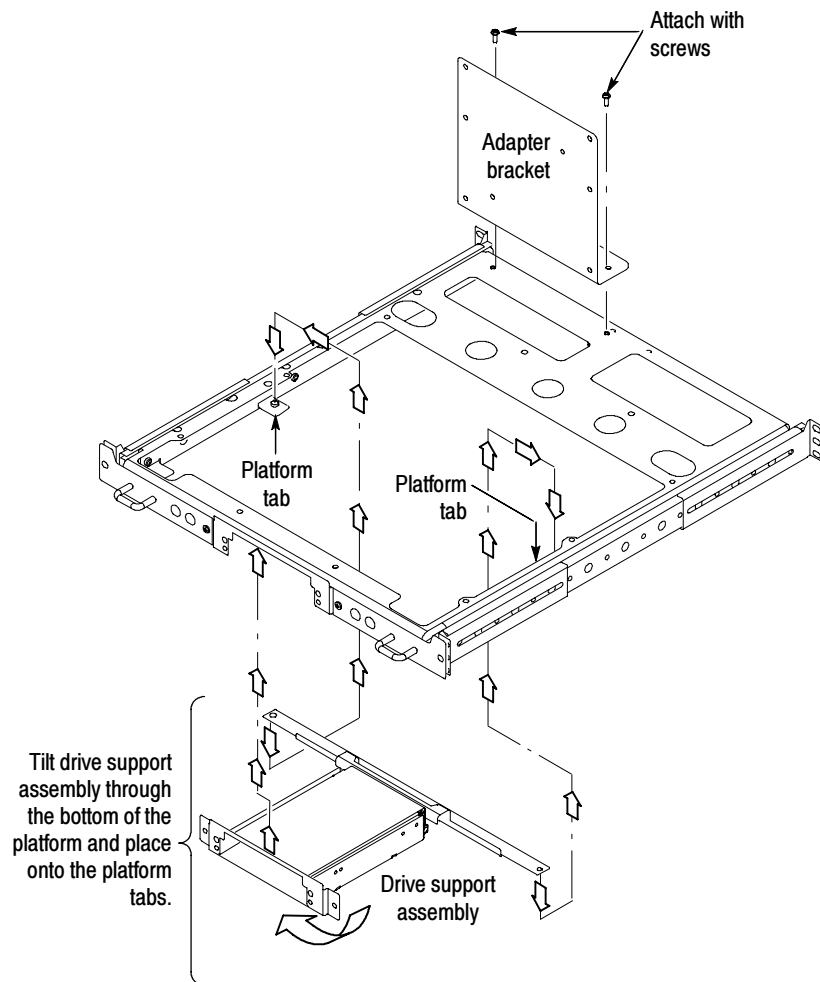

Figure 4: Installing the drive support assembly
2. Install drive support assembly. See figures 4 and 5